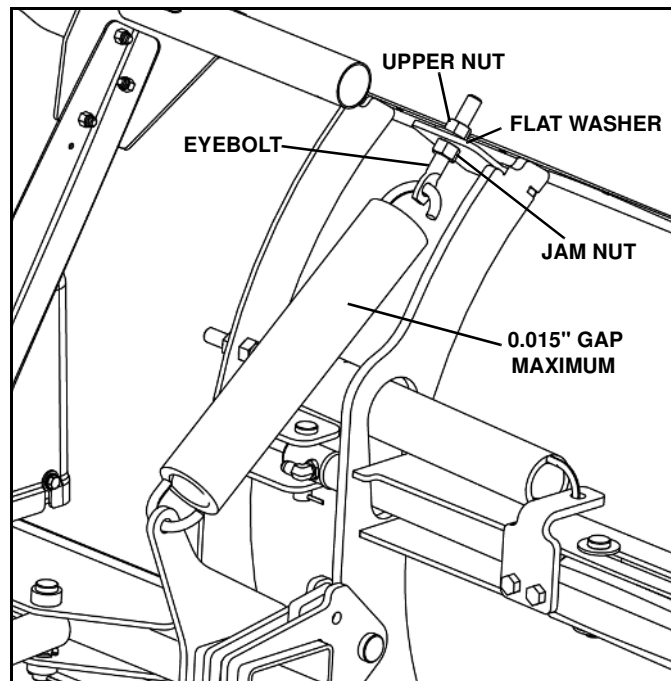

Figure 2-12
2. Ensure that blade springs are installed with open end of top loop facing vehicle. (See Figure 2-12)